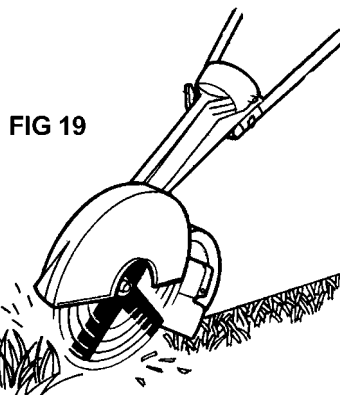

FIG 19
- As cutting action begins, move the lawn edger forward so that the blade can cut the edge as you move forward (Fig. 19).